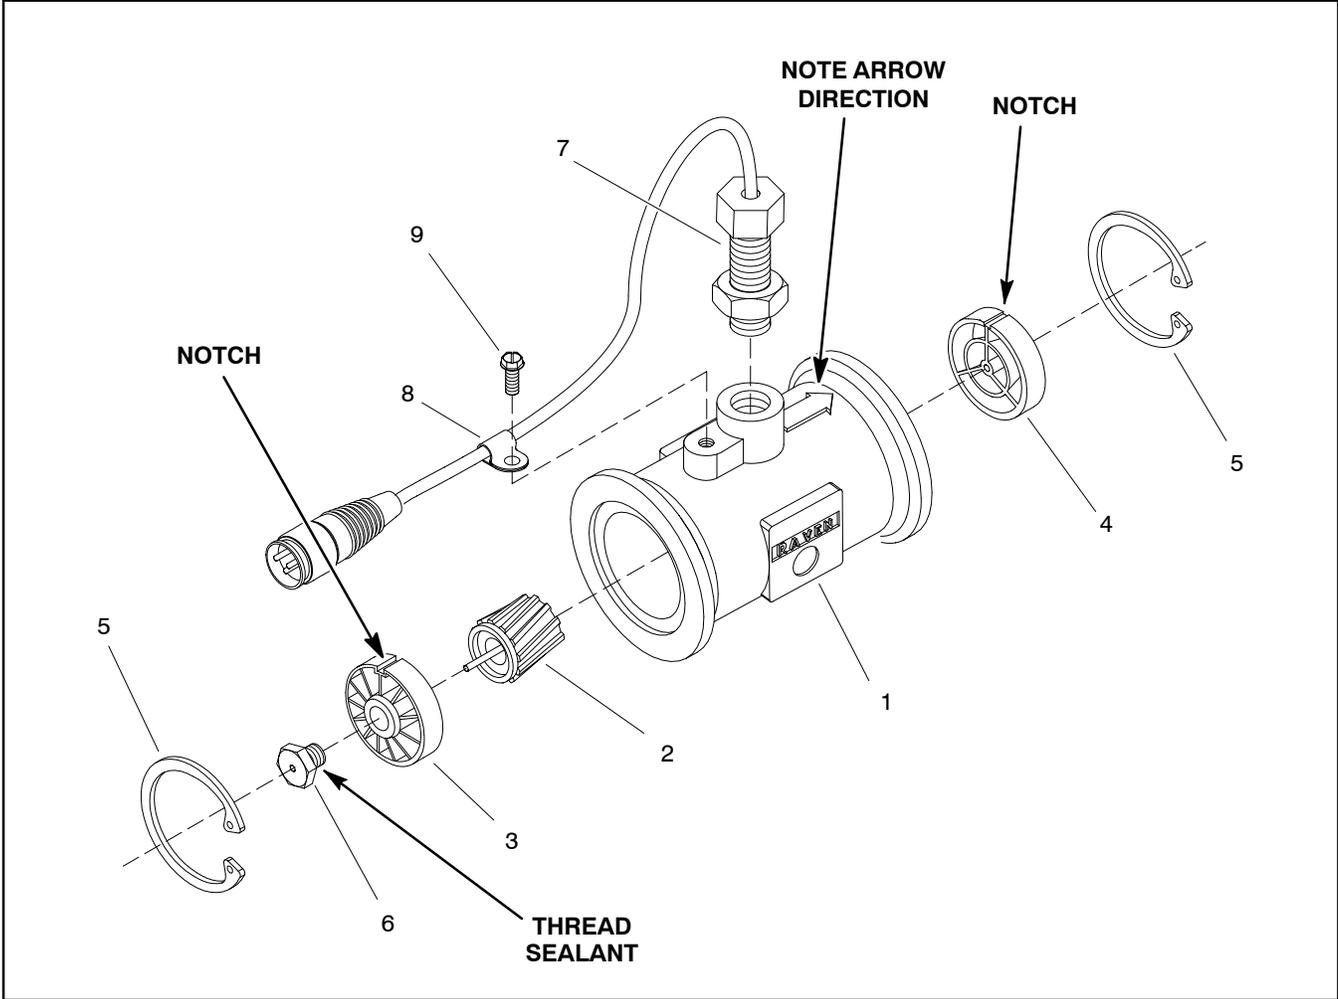

Figure 26.1
Removal and Inspection (Fig. 26.1)
2. Disassemble flowmeter as required using Figures 26.1 and 26.3 as guides.
3. Clean rotor (item 2), both hubs (items 3 and 4) and flowmeter body to remove any metal filings, spray chemicals or other materials.
Assembly (Fig. 26.1)
1. Assemble flowmeter using Figures 26.1 and 26.3 as guides. Check the following items during flowmeter assembly.
- A. If turbine stud (item 6) was removed from upstream hub, apply thread sealant to threads of stud before installation.
- C. When installing hubs (items 3 and 4) into housing, make sure to align locating notch on each hub with boss in housing bore.
- D. If sensor (item 7) was removed from flowmeter body, thread sensor into housing so that it lightly bottoms in the housing. Secure sensor in position by tightening jam nut.